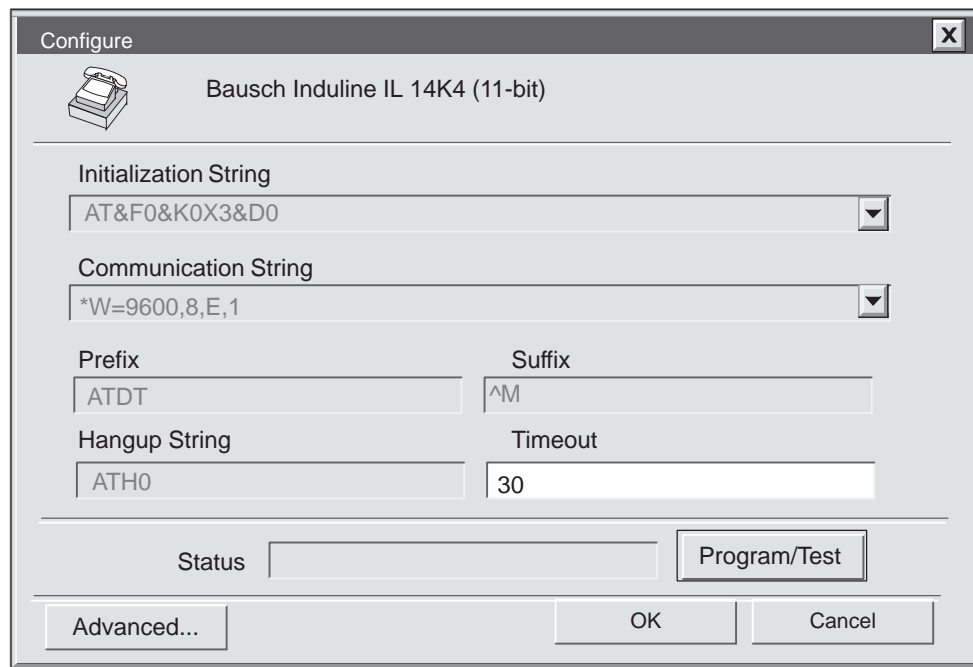

Figure 7-13 Local Modem Configuration
11. The Configure dialog box appears (Figure 7-13). If you are using a predefined modem, the only field that you can edit in this dialog box is the Timeout area. The timeout is the length of time that the local modem attempts to set up a connection to the remote modem. If the time indicated in seconds in the Timeout field elapses before the connection is set up, the attempt to connect fails. If you are not using a predefined modem, you must enter the AT command string for your modem. Refer to the documentation for your modem.